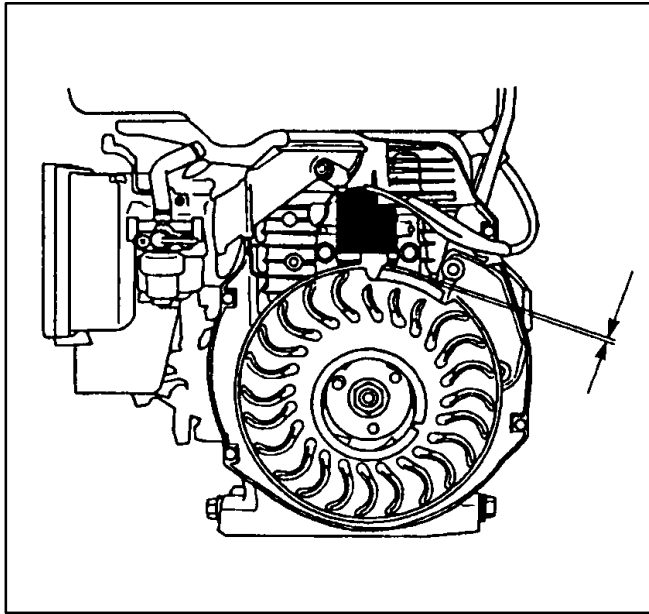

FIGURE 6-4. MEASURING CLEARANCE BETWEEN TRANSISTOR MAGNET UNIT AND FLYWHEEL MAGNET (GH170, GH280 ENGINES)
1. Measure the clearance between the Transistor Magnet Unit and the flywheel magnet (Figure 6-4).